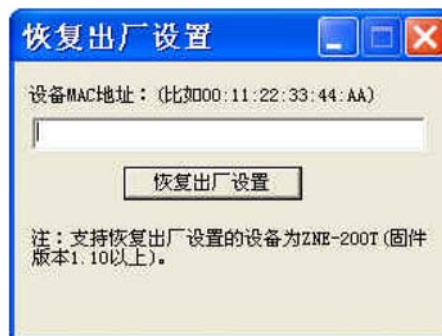

Figure 5-14: Recover the factory settings
- And then click the **Recover** button in this window, as Figure 5-14 shows.